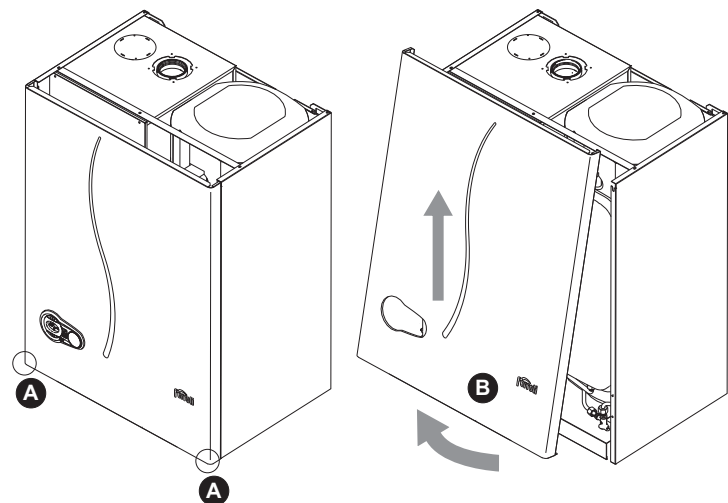

fig. 24 - Front panel opening
1. Undo the screws **A** (see fig. 24).